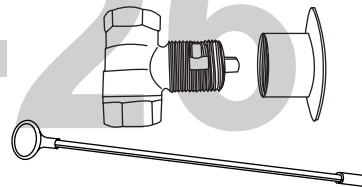
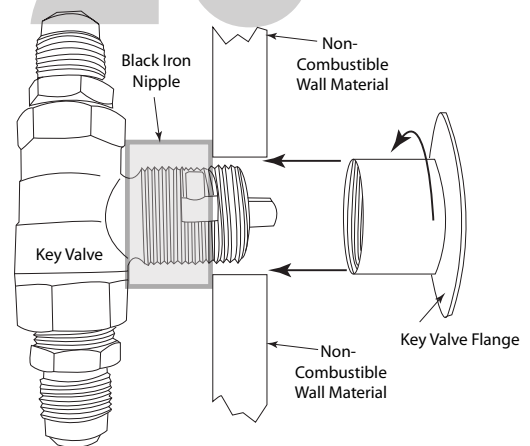

Fig. 6 Installing key valve assembly.
Fig. 7 Typical installation.
3. The primary gas shut-off (not supplied) will require a ⅝" male flared fitting to enable connection of the stainless steel flex gas line supplied with the fire pit (see Fig. 7 page 10).
The key valve contents: (1) key valve, (1) key and (1) flange. (See Fig 6). The valve requires a 1 1/4" round clearance hole in the non-combustible enclosure wall. See the instructions supplied with the key valve for more specific details. **Note:** Be sure to leak test all fitting before operation. Fig. 7 shows an example of a typical installation.
2. Ensure all shut-off valves and key valve is fully open (see page 9; Fig. 6).